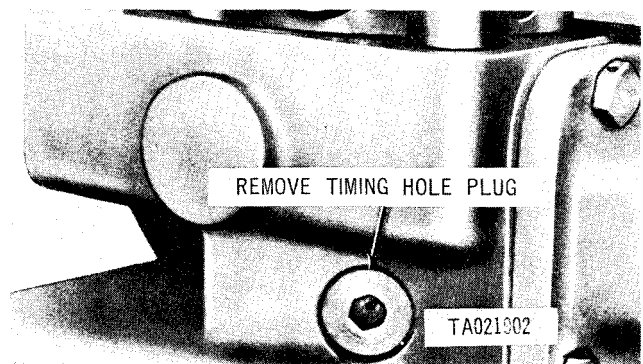
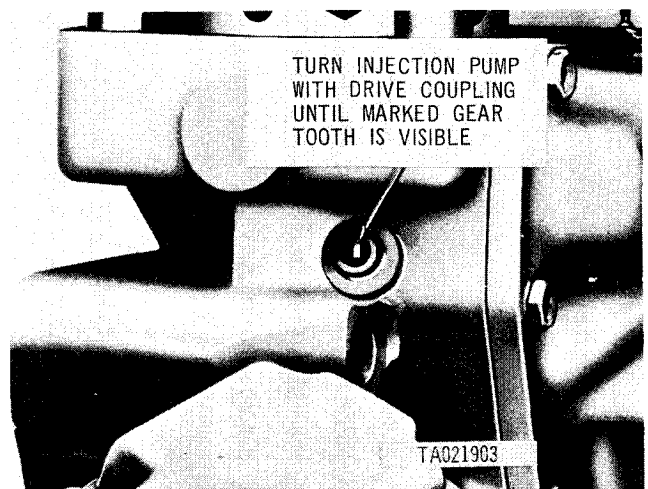

Figure 2-47. Removing or installing fuel injection pump timing hole plug.
Figure 2-48. Fuel injection pump hole showing marked gear tooth.
(2) Remove timing hole plug (fig. 2-47). Turn injection pump shaft with drive coupling until marked gear tooth is visible (fig. 2-48).
It is possible to have the timing mark on the coupling alined with mark on the injection pump bearing retaining plate (fig. 2-49) and not have the marked gear tooth visible in timing hole. Make sure marked tooth (fig. 2-48) is visible when timing marks are alined. If the marked tooth is not visible, rotate the pump shaft 360° in either direction. Aline the coupling timing marks and the marked tooth will be visible in the timing hole. Install timing hole plug.